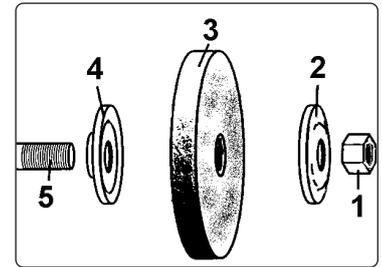

fig.3
- 5.2.4. Remove grinding wheel washer (2), wheel (3), and washer (4) from main spindle (5) see fig.3.